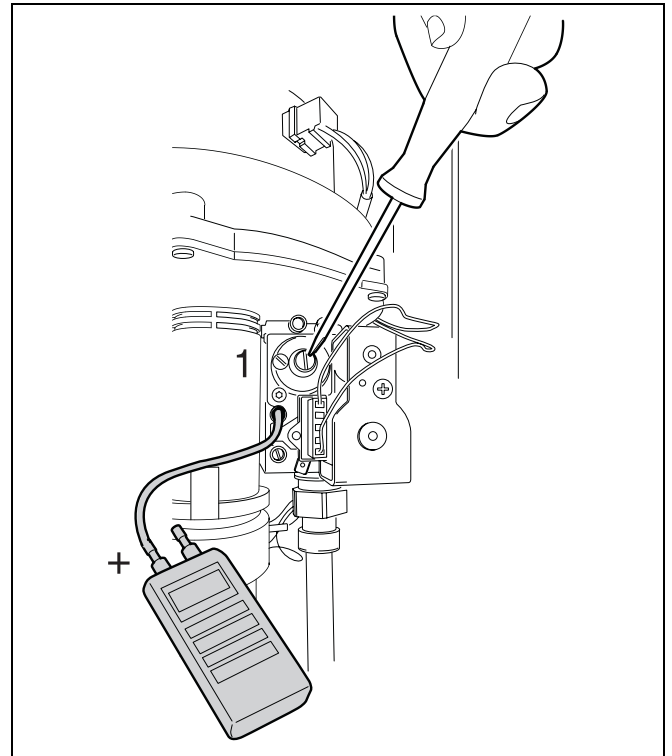

fig. 56 Adjust gas/air ratio
- Remove the safety screw with a flat head screwdriver (fig. 56, item 1).
- Replace the safety screw (fig. 56, item 1).